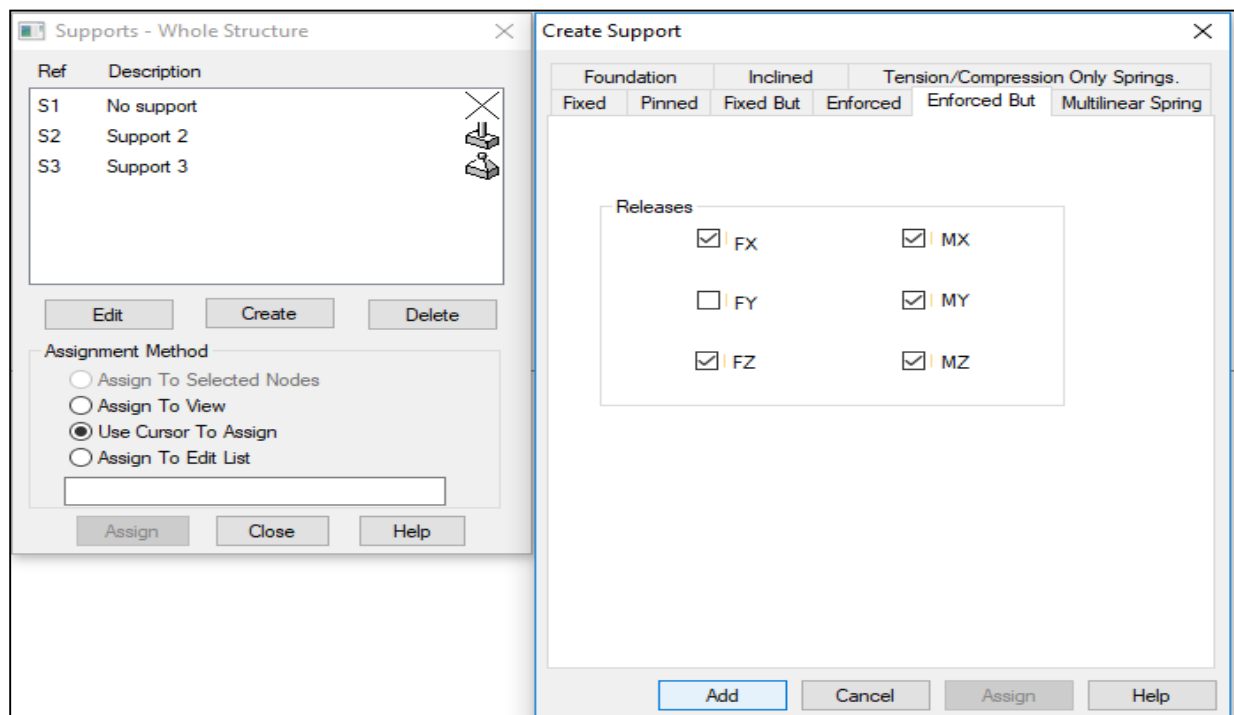

Fig: 3.6
2.2 **Support:** Create → Fixed → Add. (Fig: 3.6)